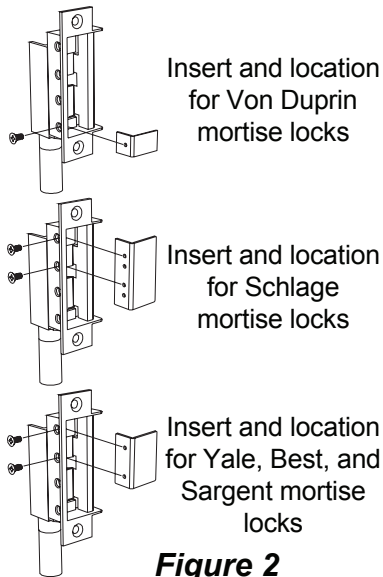

Figure 2
- 4 Install insert for auxiliary bolt operation (Figure 2).